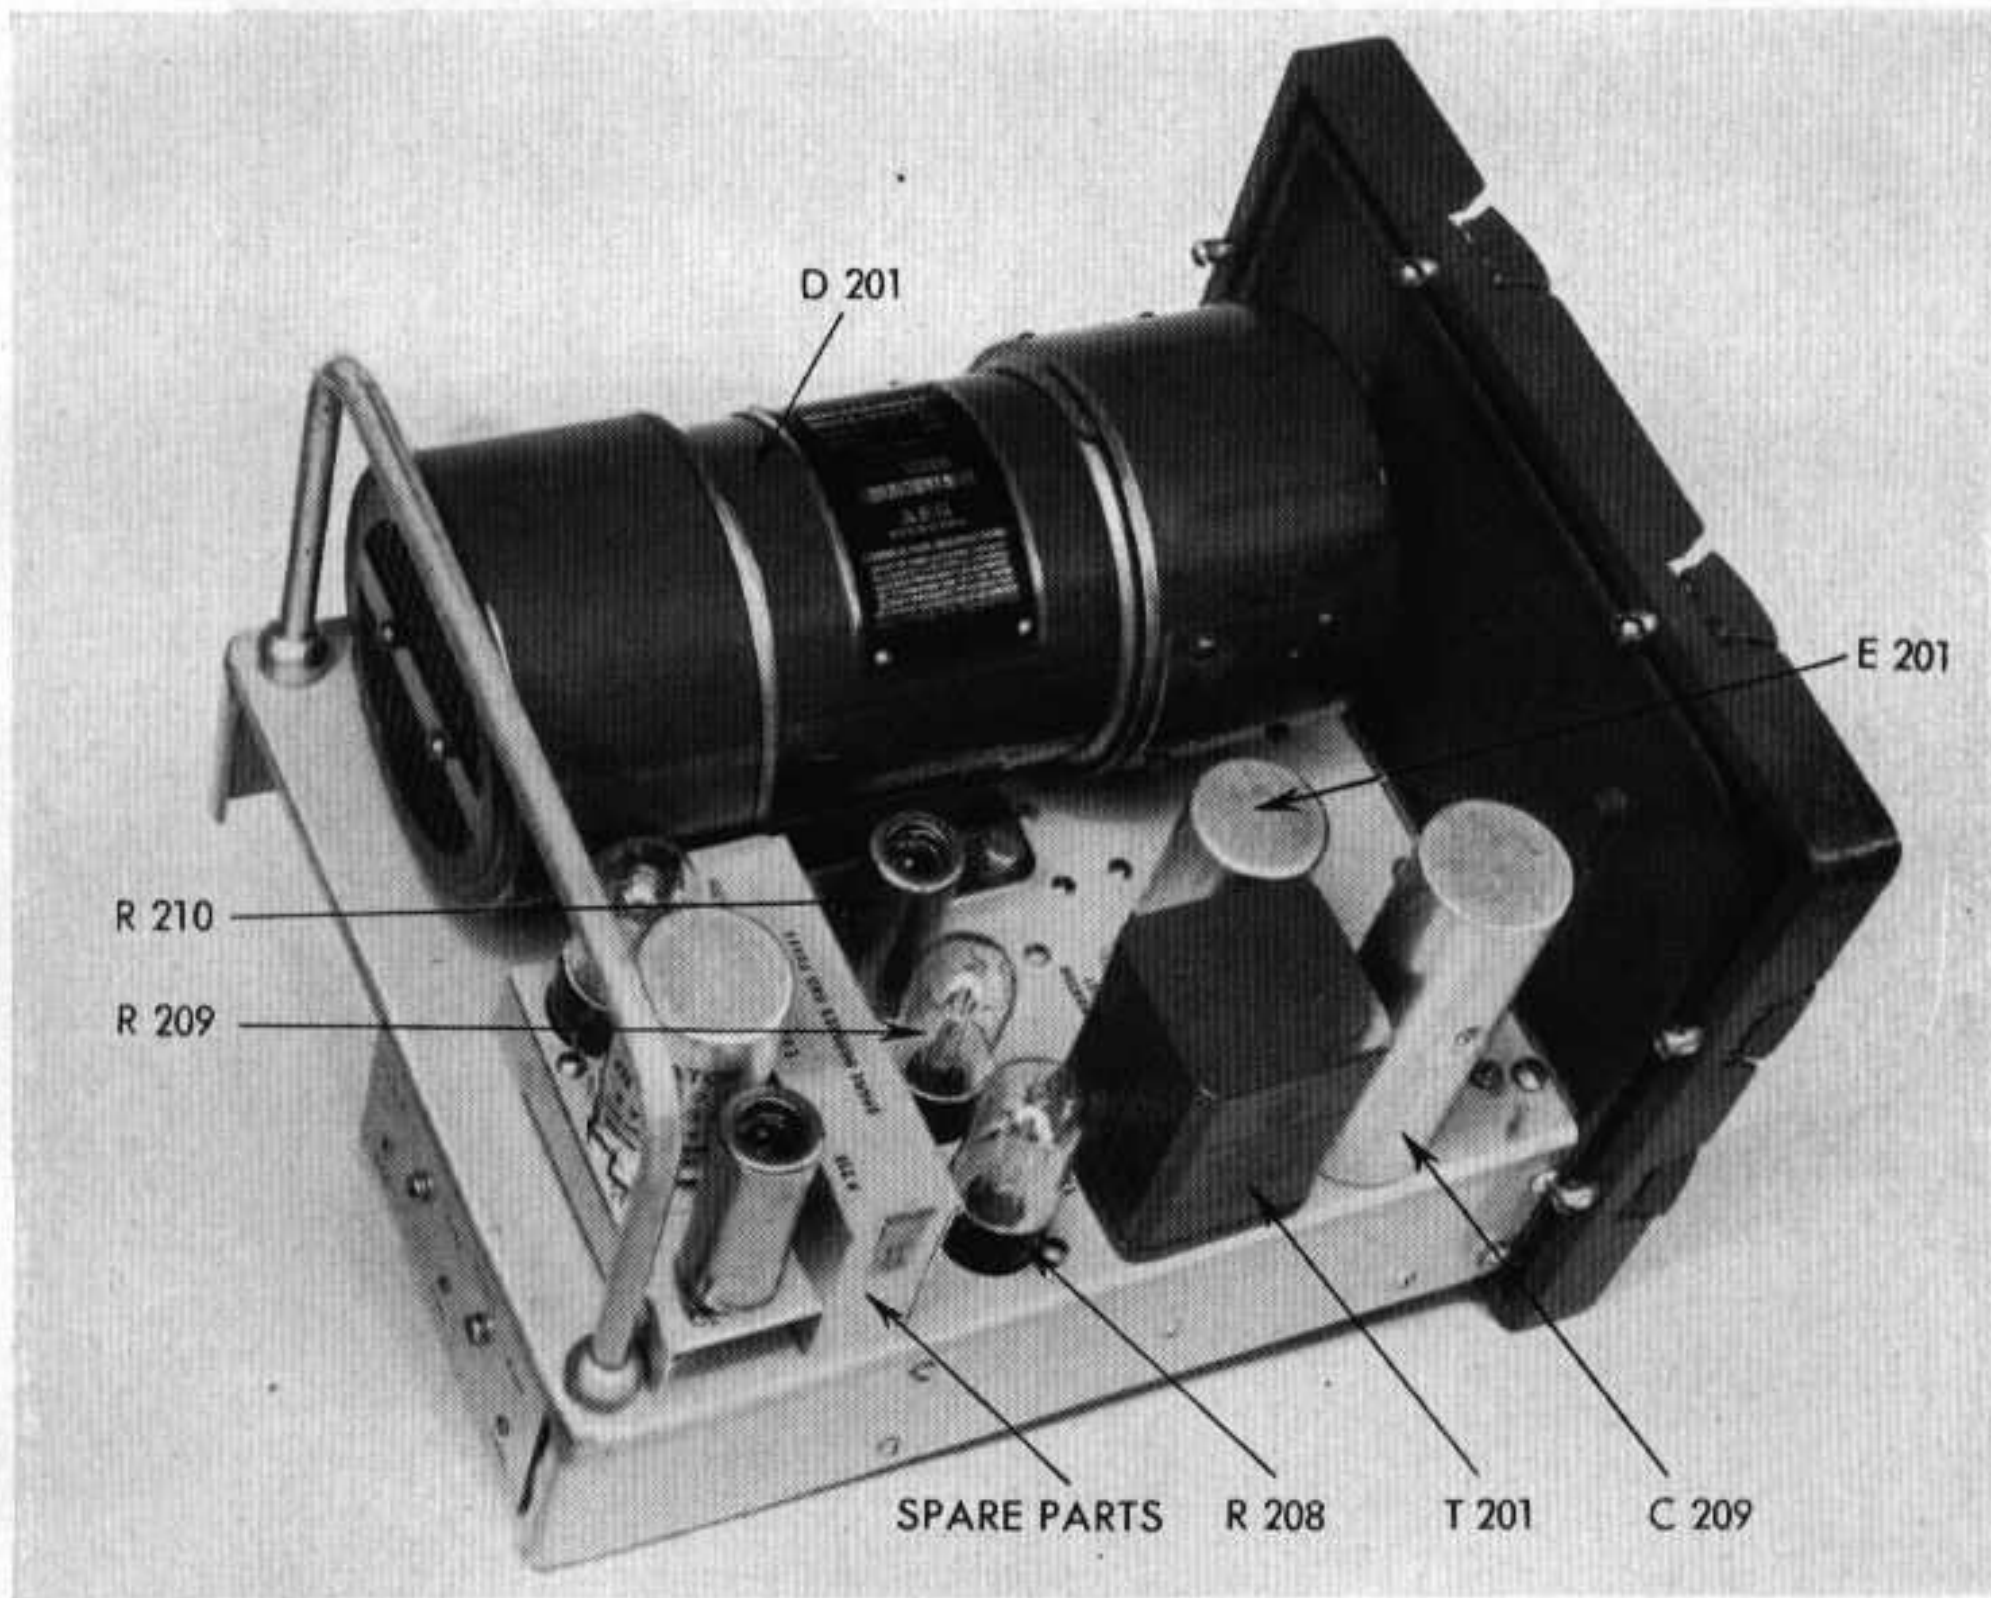

Figure 110. Dynamotor-Power Supply DY-88/GRC-9-GY, cover removed, top view.
- Remove the four screws holding each of the two access covers (fig. 110) to the dynamotor. The 12- and 24-volt brushes now are accessible.